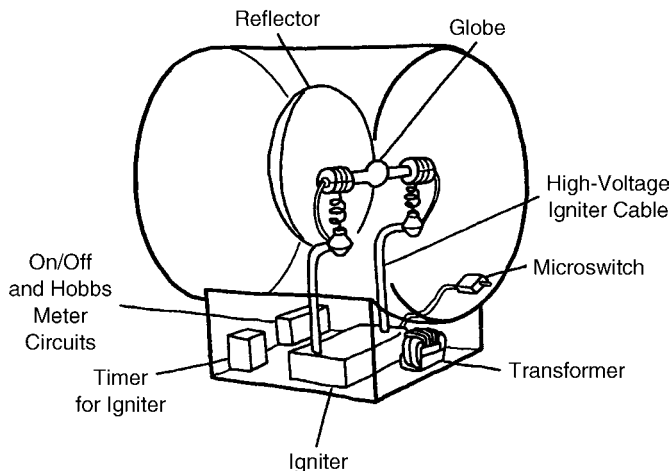

Figure 4.7 Interior anatomy of an HMI head.
With 12k lamps, if the light makes a loud buzz and arcing sound when you attempt to strike but does not take, check the high-voltage (HV) cables and lamp cables. The lamp cables connect the lamp to terminals at the base of the lamp holders. The high-voltage igniter cables run from the base of the lamp holders to the igniter circuit in the base of the head (Figure 4.7).